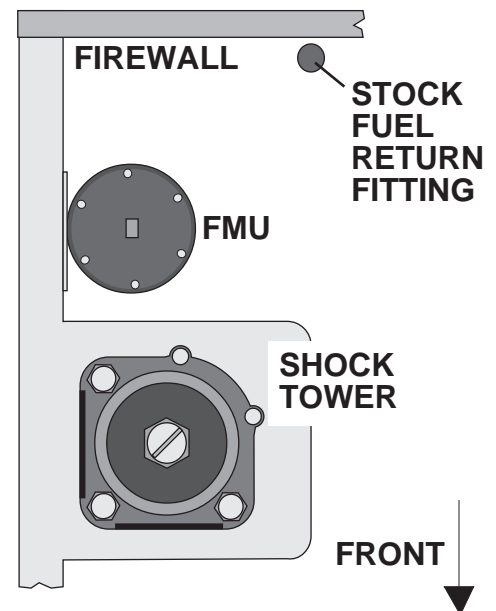

Fig. 4-a
- C. Connect the FMU input hose from the fitting on the side of the FMU to the return line coming from the fuel rail regulator fitting as shown in Figs. 4-b, 4-c on the following page.